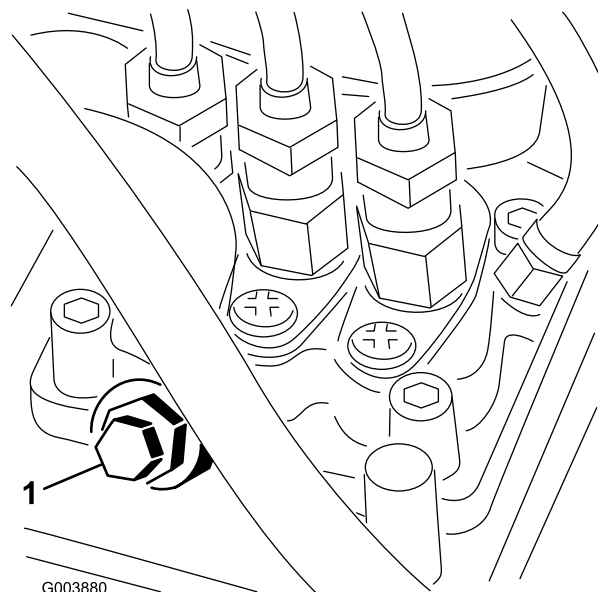

Figure 21
3. Open the air bleed screw on the fuel injection pump (Figure 21).